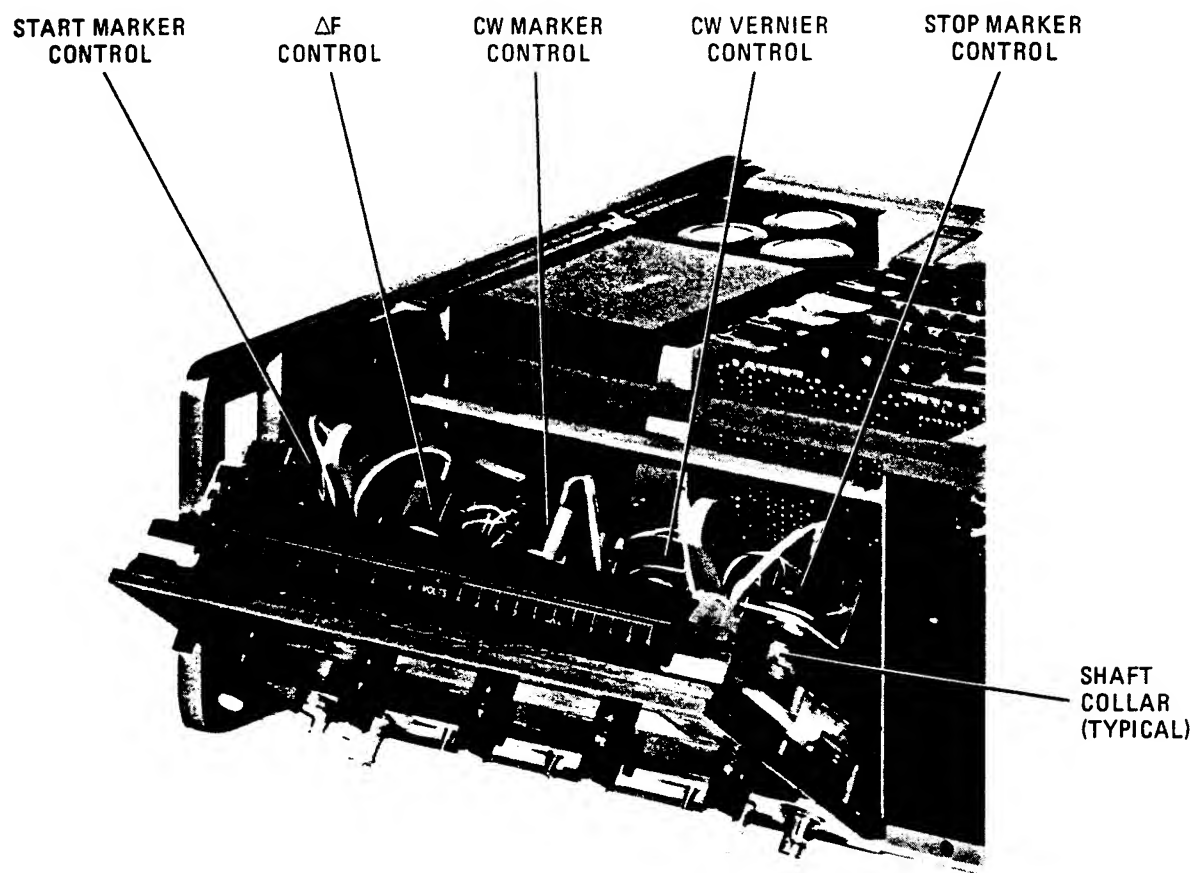

Figure 5-5. Mechanical Zero Adjustment Locations
**REFERENCE:** Figure 5-5. Mechanical Zero Adjustment Locations.
- b. Loosen set screws in shaft collar as shown in Figure 5-5 using a right-angle 4-spline (Bristol) wrench (HP Part No. 8710-0055).